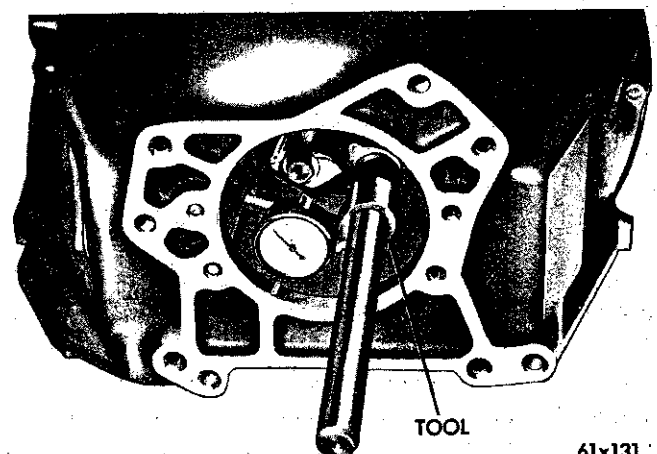

Fig. 7—Measuring Clutch Housing Bore
(1) Mount Tool C-870 with a dial indicator Tool C-435 on the flywheel.
(2) With the flywheel turning Tool C-771, turn the flywheel while noting dial indicator needle deflection. Out-of-round of bore must not exceed .008 maximum total indicator reading (See Fig. 7).